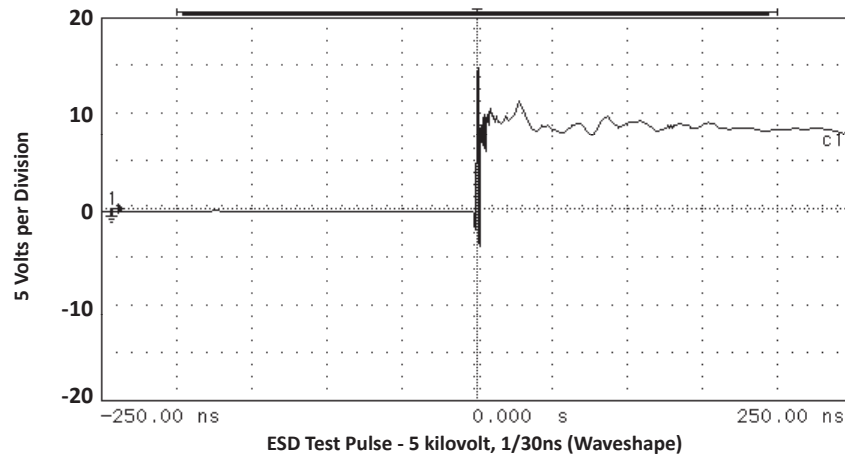

FIGURE 5
- As shown in Figure 5, REF 1 is connected to ground, REF 2 is connected to $+V_{CC}$ and input applies to $V_{CC} = 12V$, $V_{SIGN} = 30mV$, $F = 1MHz$.